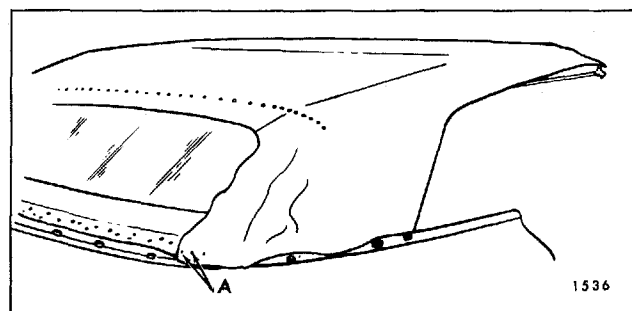

Fig. 6-26—Tacking Top Material
NOTE: The deck seam mark will vary slightly ($\pm 1/4"$) depending upon position of rear roof bow. Also check centerline mark on inner lining of top material. Mark should correspond to centerline mark on rear roof bow. (See Fig. 6-26).
38. Using previously marked lines (ends of trim stick) as locating reference, tack top material to rear and rear quarter trim sticks. "A" in Figure 6-26 shows top material installed to rear trim stick at inboard edge.